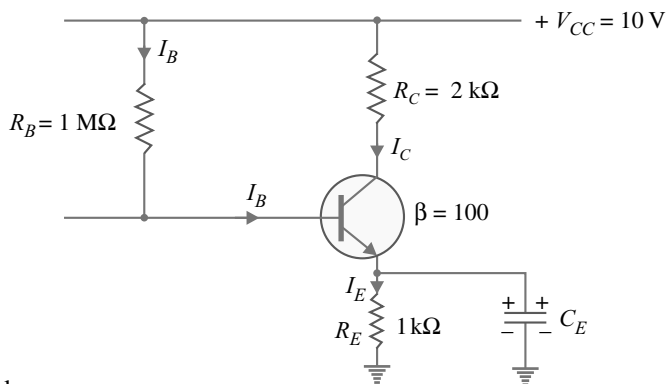

Fig. 7.10
**Example 7.8.** Calculate the values of three currents in the circuit shown in Fig. 7.10.